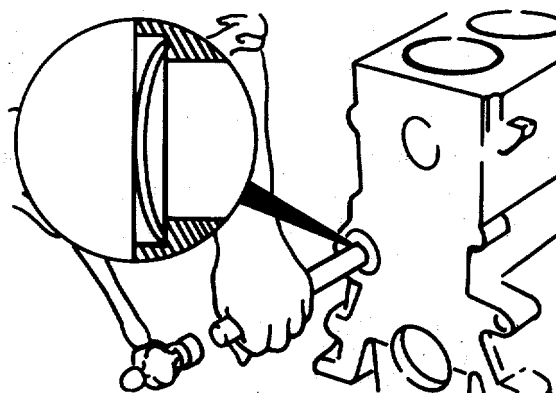

FIGURE 4-102. Install Expansion Plug.
(FIGURE 4-102)
- q. Expand the plug with a large drift and hammer. (FIGURE 4-102)